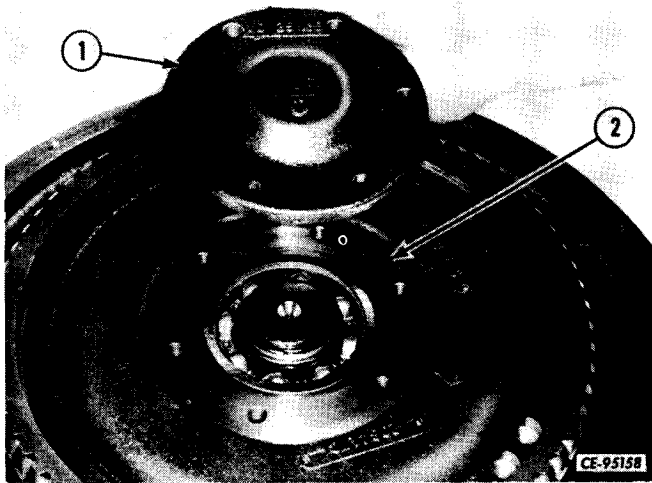

Figure 3-5
Invert the converter assembly. Remove the cap screws that secure the bearing retainer (1, Fig. 3-5) to the rotating housing (2). Remove the retainer.